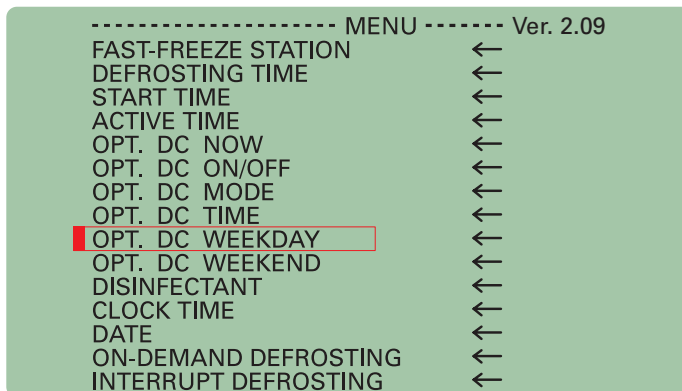

Figure 122. Display: Selecting a weekday for the weekly Cold D.
- Press Enter (Fig. 113.10) to open the submenu (Fig. 122).